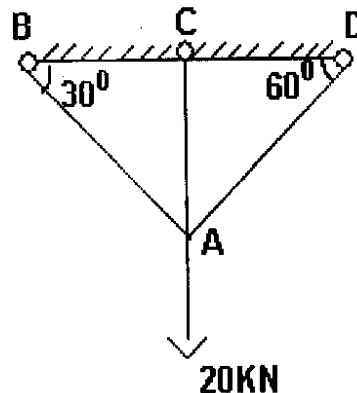

Figure 4:
- (b) Analyse the frame shown in Figure 4. Members AB and AD have area of 800mm^2 and member AC has area of 400mm^2 take $E = 2 \times 10^5 \text{ N/mm}^2$. [6+10]